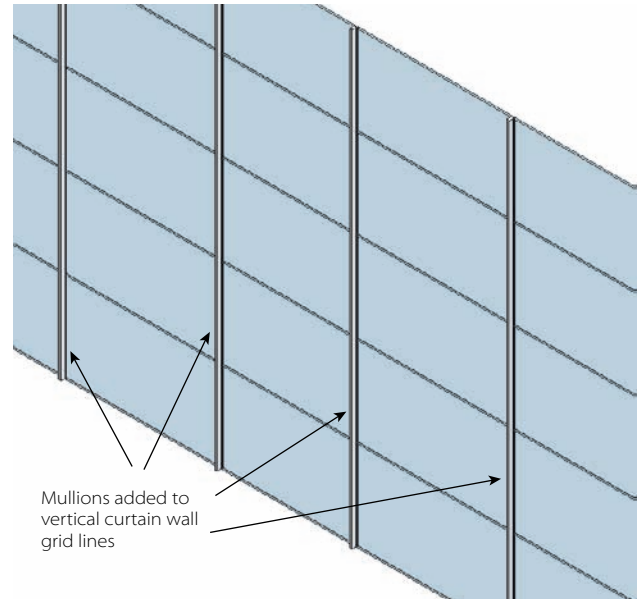

Figure 3.82
7. Continue to add mullions to the six remaining vertical mullions (Figure 3.82).